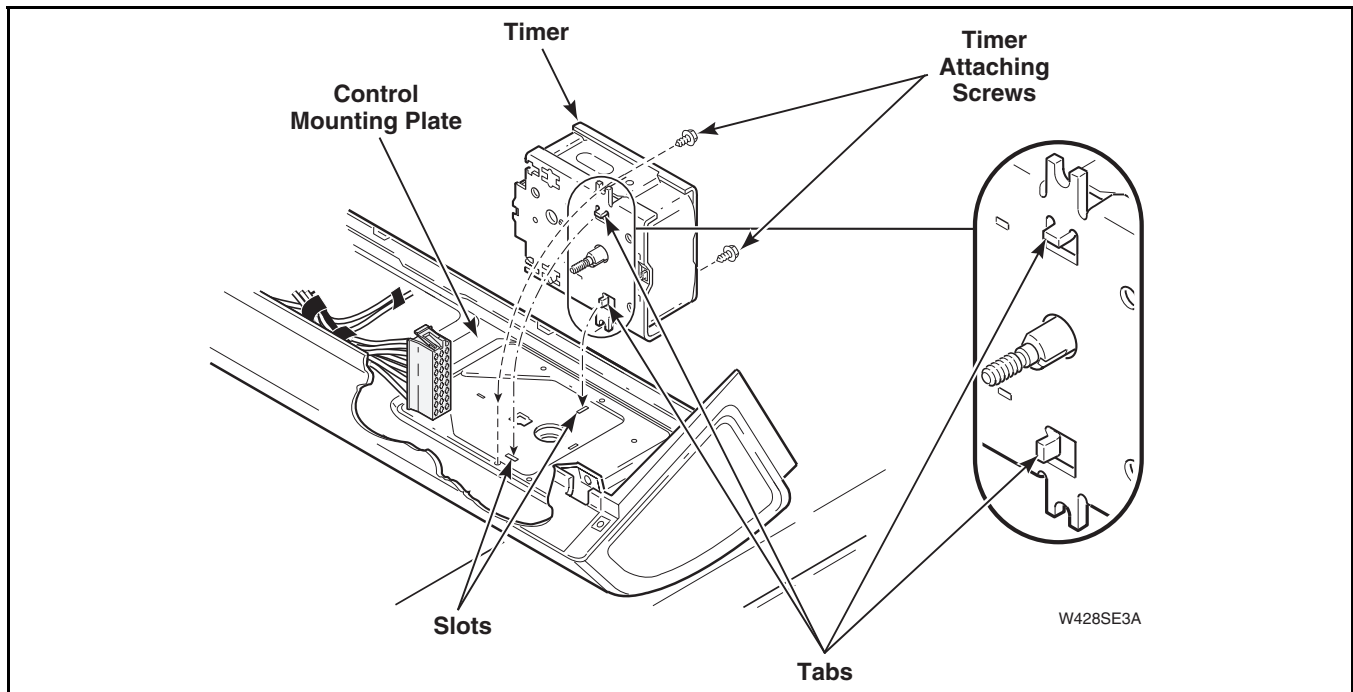

Figure 16
NOTE: When installing timer, make sure timer is installed correctly and is securely mounted to control mounting plate. Refer to *Figure 16*.
g. Seat horizontal and vertical tabs on front plate of timer completely into slots on control mounting plate. Refer to *Figure 16*.